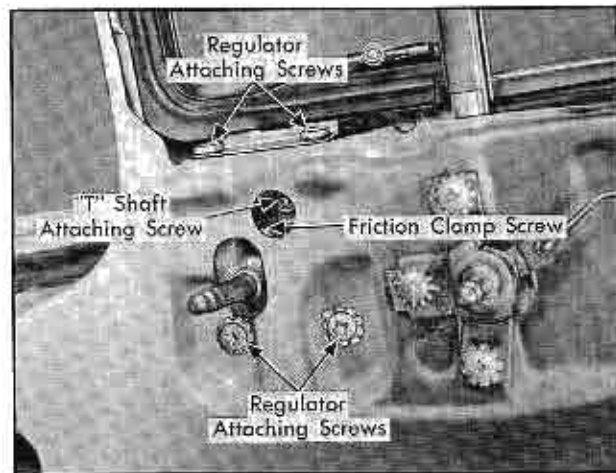

Fig. 3-32 Ventilator Regulator Attaching Screws
1. Excessive play (flutter) of the ventilator at the pivot shaft when the ventilator is open, may be eliminated by tightening the screw which mounts the ventilator "T" shaft to the regulator, Fig. 3-32. Tighten carefully to avoid stripping threads in spiral gear shaft.
2. The operating effort required to open or close the ventilator can be slightly increased or decreased by adjusting the friction clamp screw, Fig. 3-32.
2. Remove screws Fig. 3-32, securing regulator to door inner panel and to ventilator assembly.